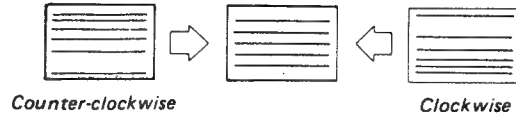

Fig. 29-2
- Adjust V. LIN BALANCE by turning DA board RV20 as shown in Fig. 29-2.